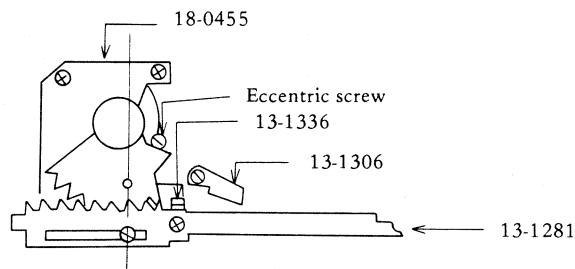

Fig. 25
Mount the Meter Set Cam (13-1281) properly referring to Fig. 25. (ASA100, 1/1000sec)
- 2) The Mark should be visible in the View Finder when the Shutter speed is between $1/2$ sec and B at ASA 100 and not visible from $1/4$ to $1/1000$ sec. Make adjustment through Nut (13-1336) and Warning Lever (13-1306). See Fig. 25.